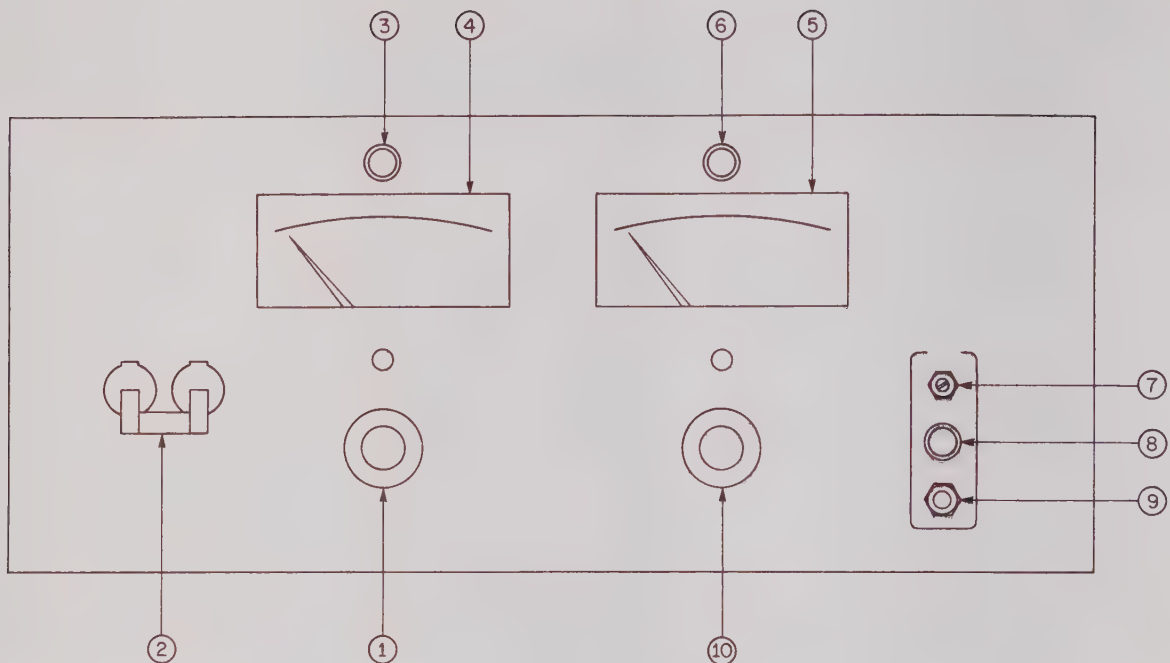
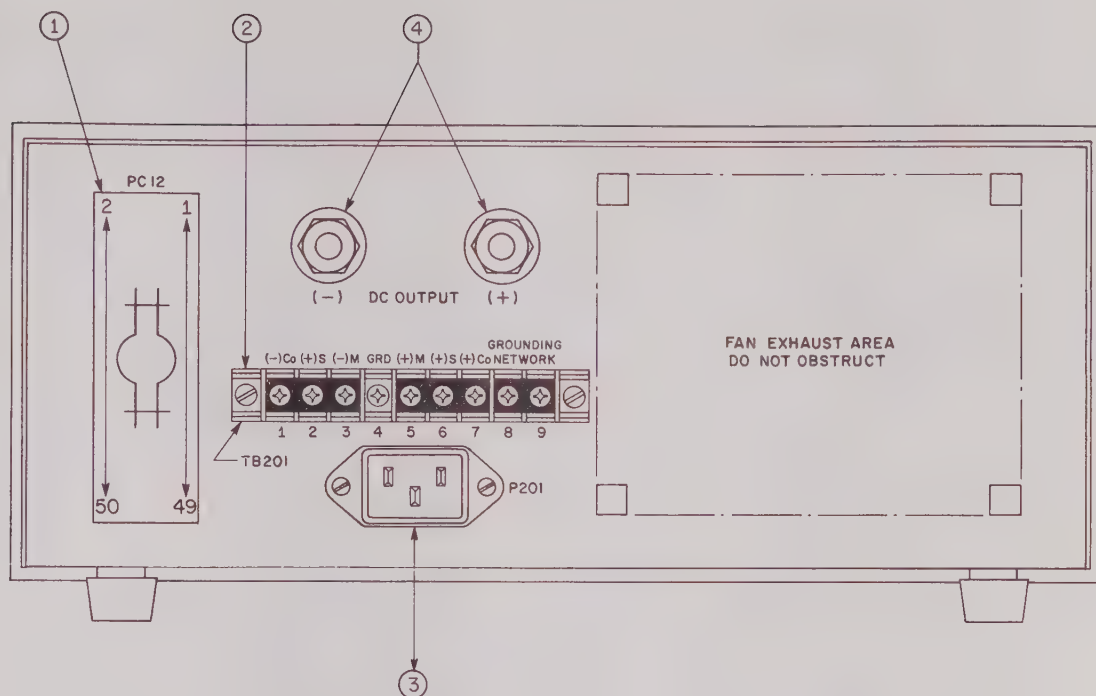

FIG. 2-2 CONTROL AND TERMINATIONS, ATE 3/4 RACK GROUP, FRONT.
FIG. 2-3 TERMINATIONS, ATE 3/4 RACK GROUP, REAR.
- a) FRONT PANEL: Refer to FIG. 2-2 and Table 2-2.
- b) REAR: Refer to FIG. 2-3 and Table 2-3.
- 2-9 A simple operating check after unpacking and before permanent installation is advisable to ascertain whether the power supply has suffered damage resulting from shipment. Refer to FIG. 2-2 and to FIG. 2-3 for the location of the operating controls and output terminals.
- To reset the adjusted crowbar point, press DISARM button again and advance VOLTAGE CONTROL clockwise. Note voltage at which the CROWBAR INDICATOR lights up. Readjust LEVEL control if necessary, by repeating step (2) and check again by repeating steps (3) and (4).
A resistor/capacitor network is connected from the negative monitor terminal to the metal chassis of the power supply. If this internal network is *not* desired, the connection to the chassis can be opened by removing the link (8)-(9) on TB201 (See FIG. 2-3).